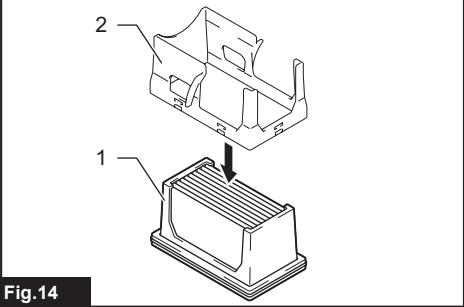

Fig.14
► Fig.14: 1. Filter 2. Filter case